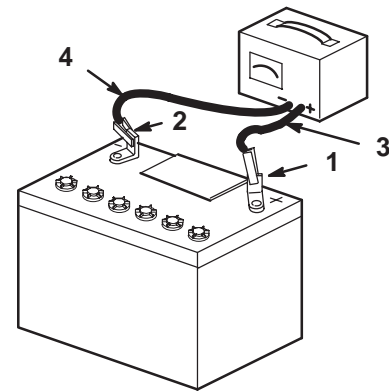

Figure 58
4. When the battery is fully charged, unplug the charger from the electrical outlet, then disconnect the charger leads from the battery posts (Fig. 58).